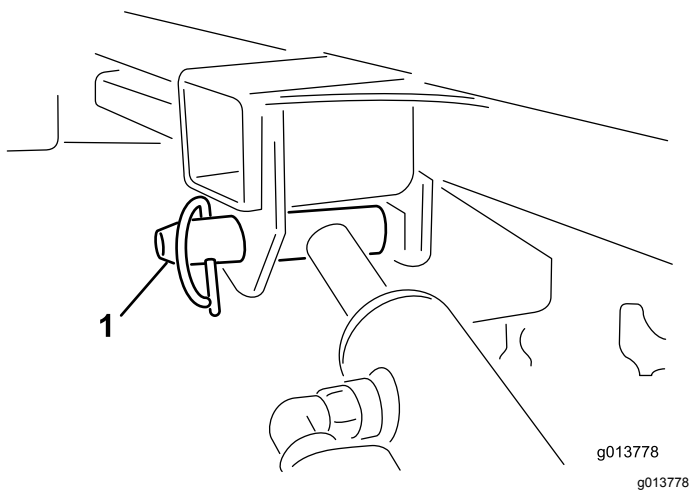

Figure 51
11. With 1 hand, hold the lift cylinder. With the other hand, remove the lift cylinder's locking pin (Figure 51).